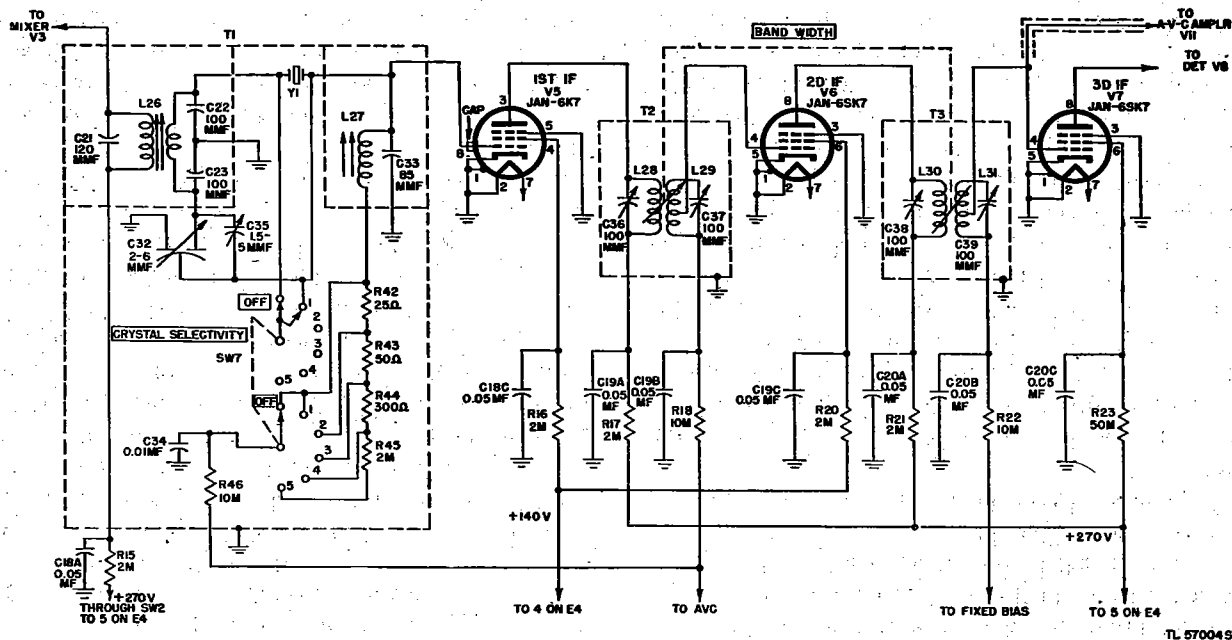

Figure 29. Radio Receiver BC-779-B, functional diagram of i-f amplifier.
62. I-F Amplifier (fig. 29)
a. INPUT STAGE TUBE JAN-6K7 (V5). (1) **CRYSTAL SELECTIVITY switch at OFF.** With the CRYSTAL SELECTIVITY switch, SW7, at OFF, the crystal filter is shorted. Consequently, the i-f signal is applied directly from input transformer L26 to the parallel-resonant grid circuit (permeability-tuned inductor L27 and 85-mmF capacitor C33) and to the control grid (top cap) of V5. C34 places the lower end of L27 at r-f ground potential. Grid bias is applied from the a-v-c line (par. 65) through 10,000-ohm decoupling resistor R46 which is bypassed by 0.01-mf capacitor C34. Plate (pin 3)
a. **A-V-C AMPLIFIER TUBE JAN-6SK7 (V11).** The output of the 2d i-f stage, V6, is applied simultaneously to the 3d i-f stage, V7 (fig. 29),